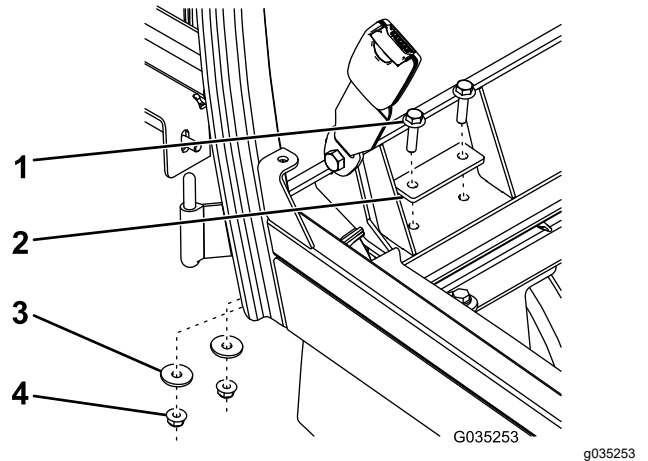

**Figure 12**
- Secure the sides of the cab frame to the machine using 6 hex-head bolts (3/8 x 1-1/4 inches), 6 washers (3/8 inch), and 6 flange nuts (3/8 inch) as shown in Figure 12.